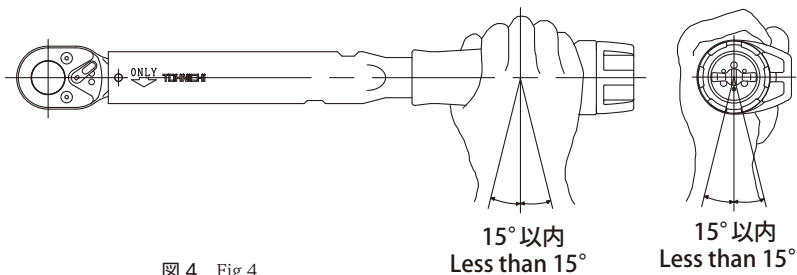

図 4 Fig.4
上下左右とも± 15° 以内にする。(図 4)
- The loading direction must be at a right angle to the torque wrench. The tolerance is plus/minus 15 degrees of horizontal or vertical deviation. See Fig. 4.